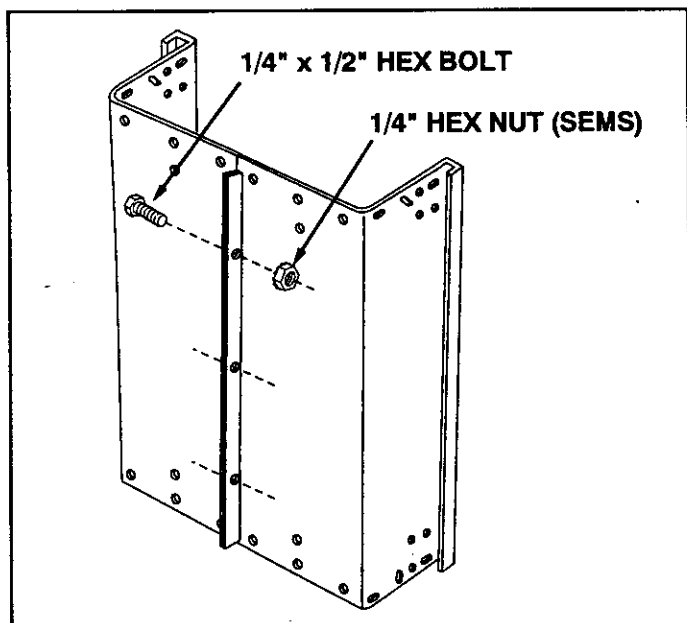
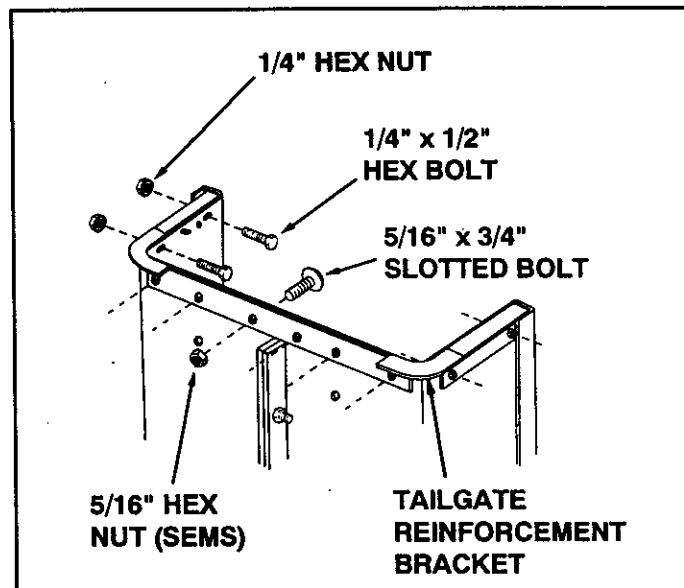

FIGURE 1
FIGURE 2
- Position cart body halves upright on a smooth level surface such as a garage floor or a paved driveway. See figure 1.
- Assemble halves together using three 1/4" x 1/2" hex bolts and 1/4" hex nuts (SEMS) as shown in figure 1. Do not tighten.
- Position the tailgate reinforcement bracket on outside of cart as shown in figure 2. Fasten to the bottom of the cart body using six 5/16" x 3/4" slotted head screws and 5/16" hex nuts (SEMS). Do not tighten. See figure 2.
- Fasten the tailgate reinforcement bracket to the sides of the cart body using four 1/4" x 1/2" hex bolts and 1/4" hex nuts (SEMS) as shown in figure 2. Do not tighten.
- At this time, with the cart body halves pulled together, tighten the six slotted head screws assembled in figure 2 and then tighten the four hex bolts assembled in figure 2. Do not tighten the three hex bolts that were assembled in figure 1.
At this time **tighten** the three bolts on the bottom of the cart which were assembled in figure 1.